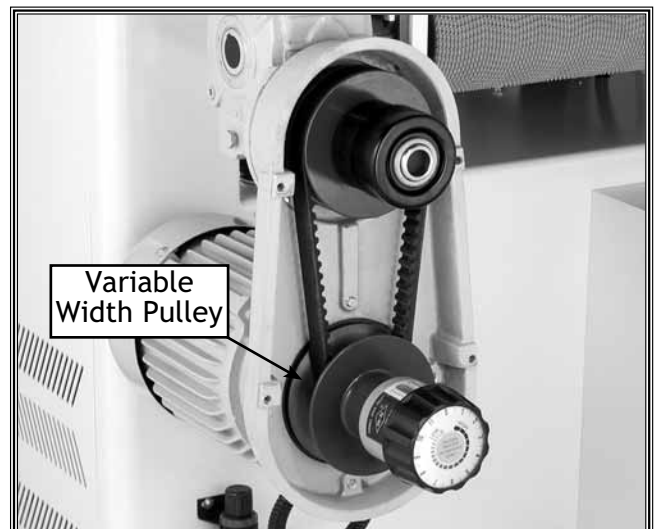

Figure 24. Non-adjustable conveyor motor belt.
1. Remove the screws and the emergency stop plate. See Figure 24.